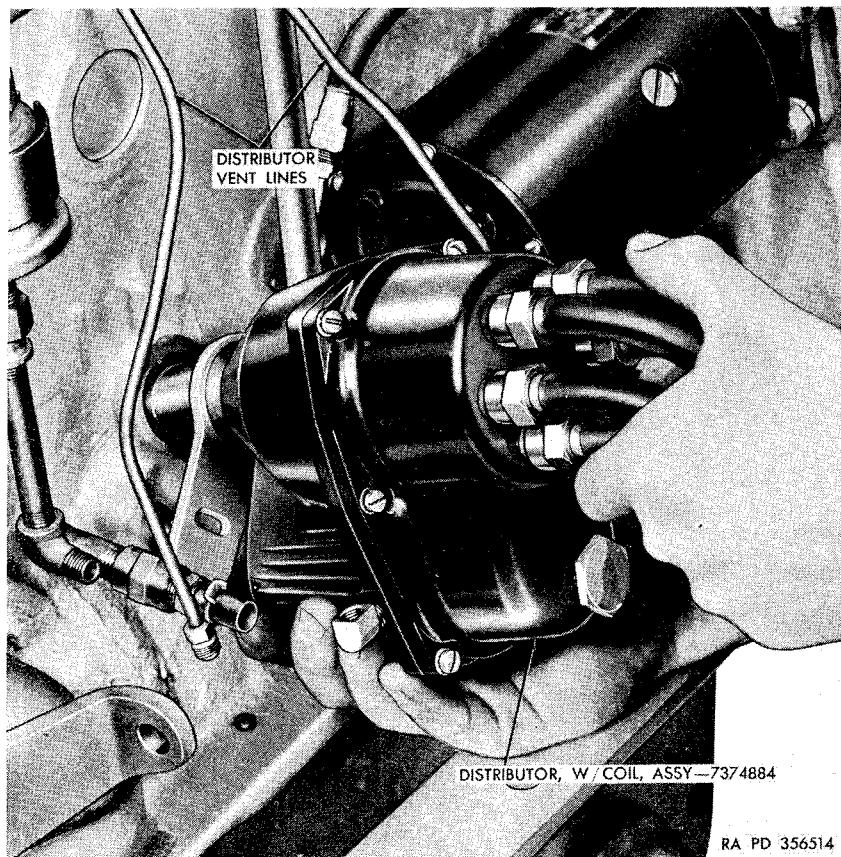

Figure 21. Removing distributor assembly.
- (3) Remove bolts securing generator to mounting bracket and remove generator.
c. *Distributor Assembly* (fig. 21).
- (1) Before disconnecting secondary cables from spark plugs, scribe a mark on the distributor housing at the No. 1 spark plug cable terminal, which will facilitate assembly as the firing order is 1-5-3-6-2-4 clockwise. Disconnect secondary cables from spark plugs.
- (2) Disconnect air vent lines at distributor.
- (3) Remove distributor adjusting lock screw.
- (4) Pull distributor from cylinder block.